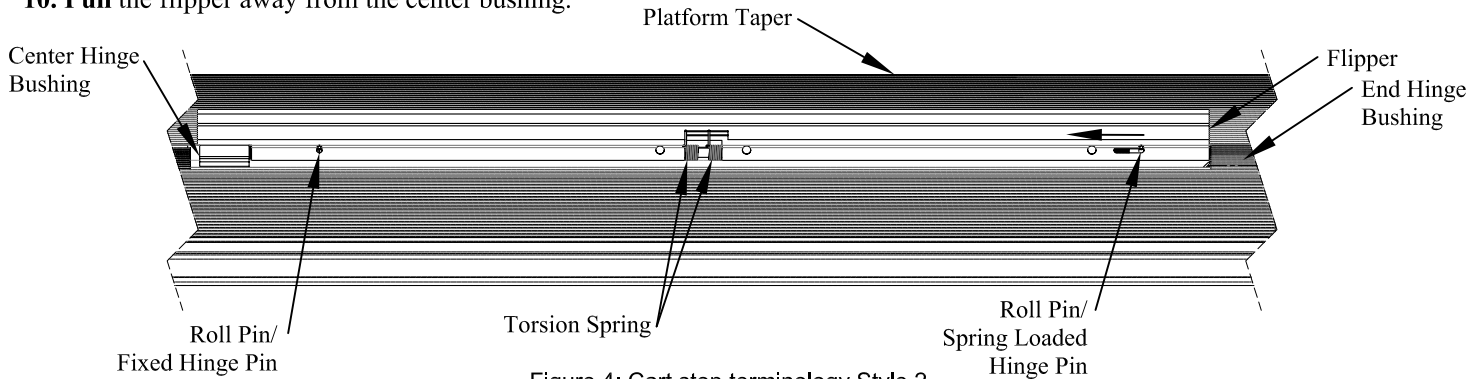

Figure 4: Cart stop terminology Style 2.
9. **Slide** the roll pin in the spring loaded hinge to the end of the slot (away from lid end) and pull flipper up to prevent the hinge from re-engaging (Figure 4).